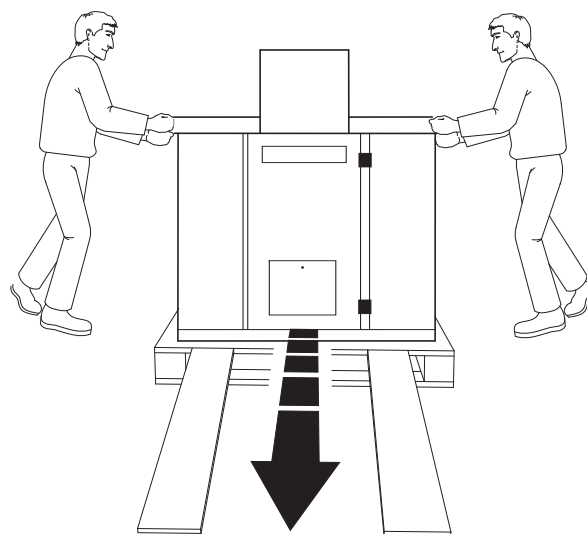

Figure 4-5
10. Grasp the machine on the sides as shown in the figure, then slide it slowly along the platforms on its wheels, making sure they remain centered on the platforms, then lower it to the ground (Figure 4-5).